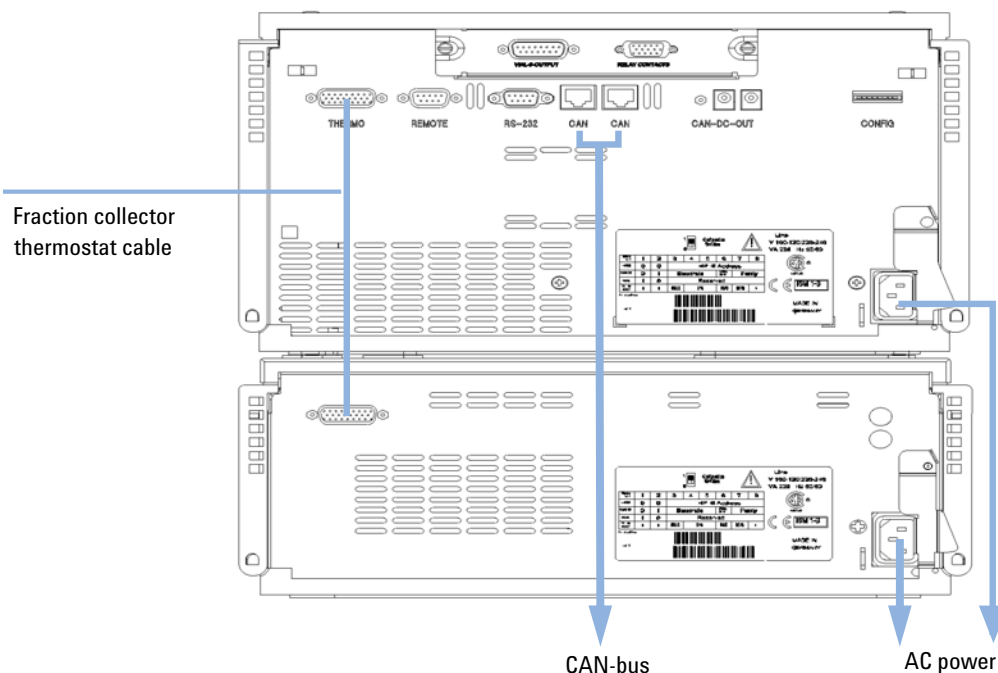

Figure 8 Connections at the Rear of the Thermostatted Fraction Collector
- 14** Connect the cable between the fraction collector and the thermostat, see Figure 8 on page 39.